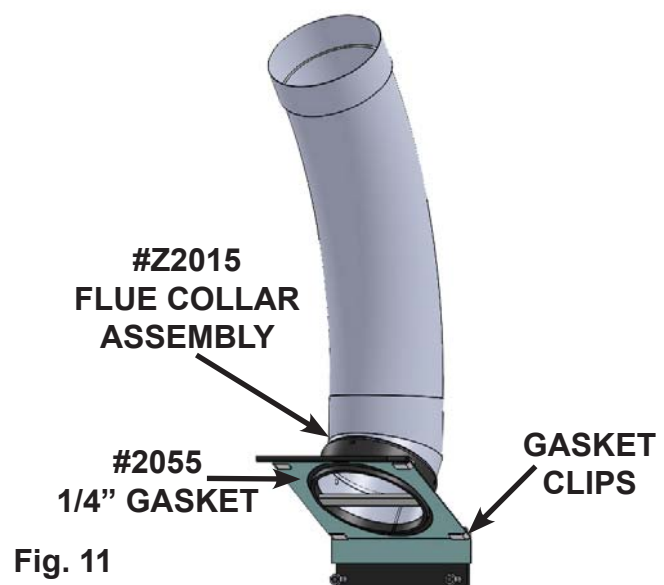

Fig. 11
1. NOTE: For ease of install; once chimney piping is completely installed and attached to the provided flue collar / flue extension, leave flue collar hanging roughly 2 feet above the floor of the fireplace. This will enable unit to be pushed back into the fireplace opening without interference and allow for an easy grab through the bypass door opening to install. (**Fig. 11**) Ensure 1/4" gasket is intact on the bottom of the flue collar assembly before installation. **NOTE: REMOVE GASKET CLIPS FROM THE EDGE OF THE FLUE COLLAR ASSEMBLY BEFORE INSTALLATION.**